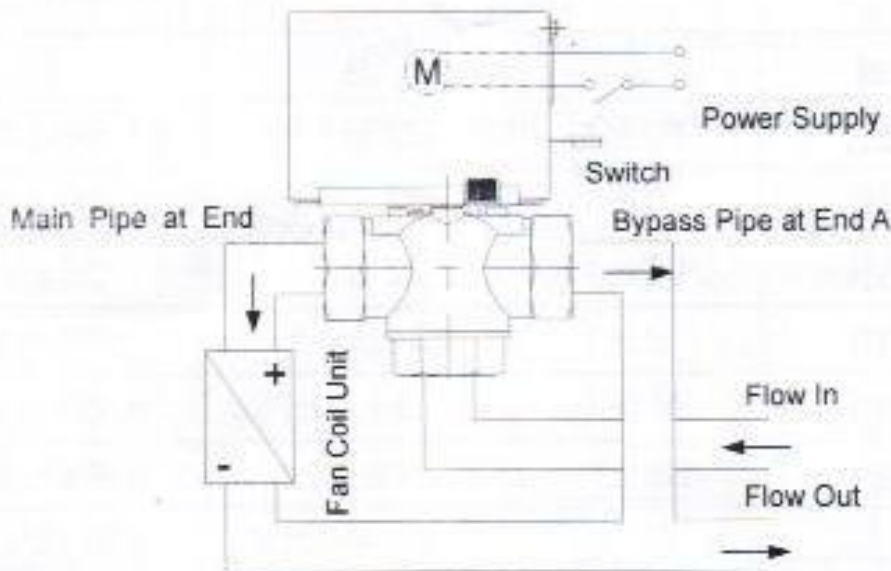

Fig. 3
5. When to install the 3-way valve, the medium will enter from under of the valve (No sign at this end). Note: End B is normally closed, and end A is normally open. Please connect end B to the main pipe and end A to bypass pipe. Please refer to Fig. 3 when to install the valve.